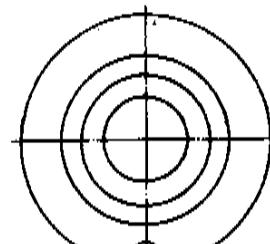

Fig. 3 — S
- * Allow the wheel to oscillate to find the center of gravity which is then marked "S" with chalk (Fig. 3)